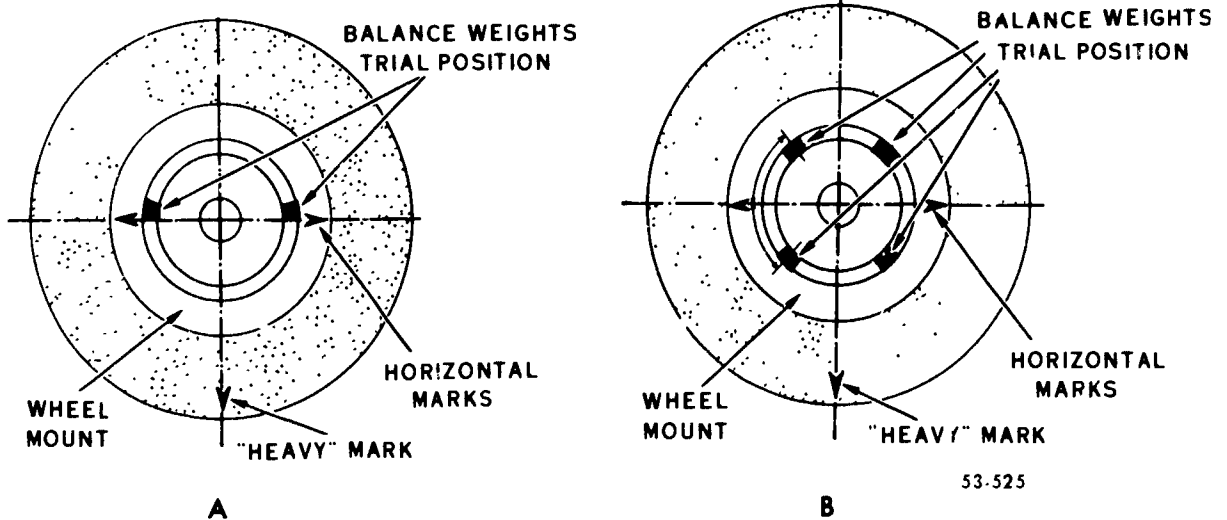

Figure 3-6 Use of balance weights
**Balancing.** A grinding wheel under 12 inches in diameter seldom needs balancing. Larger wheels, especially those that are to be used in precision grinding, must be balanced. To balance a wheel, you mount it on an arbor and let it slowly revolve on a balancing stand, as shown in figure 3-5. The wheel will come to rest with the heaviest part down. You balance the wheel by shifting the position of the weights, either two or four in number, in a circular groove cut in the wheel mount bushing, as shown in figure 3-6. The weights are secured by a jam screw. If a wheel does not have weights, you can balance it by carefully chiseling out some of the wheel next to the bushing and filling the space with lead. After mounting the wheel, recheck the balance with the wheel rotating. Do not permit a wheel with which you perform wet grinding to remain stationary with a portion of the wheel immersed